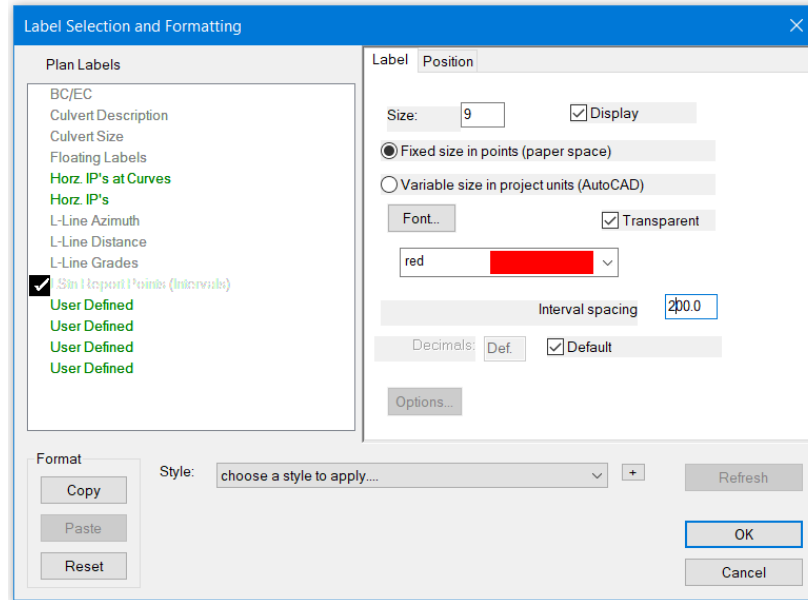

Figure 23-4: Plan Window Label Selection and Formatting
- Set the *Interval spacing* to **200** (Figure 23-4).